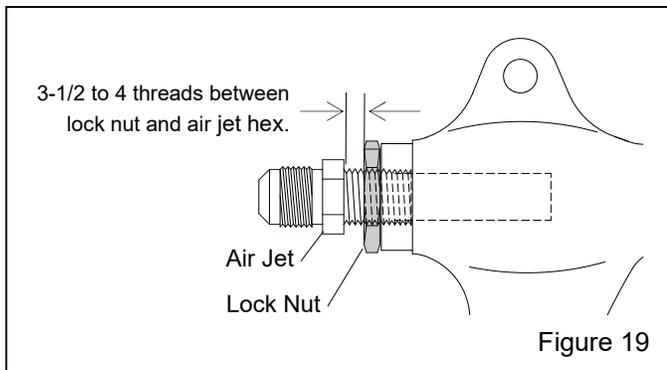

Figure 19
5.2 Air Jet Adjustment – Figure 19